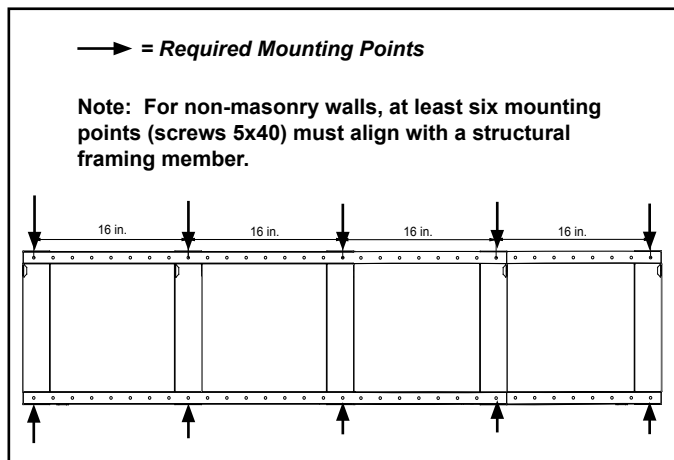

Figure 4.3 Mounting Bracket
- Mark ten locations on the wall that correspond to the ten required mounting points in the bracket. See Figure 4.3 & 4.9.